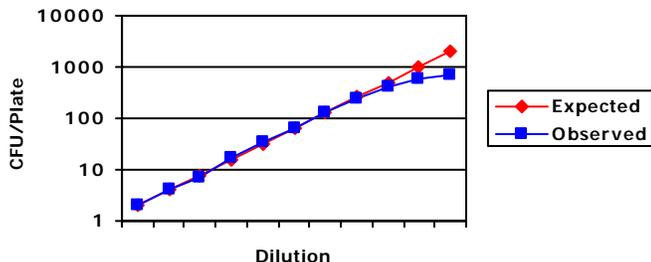

Figure 1 - Excessive CFU/plate
There are methods available if you should want to accurately determine the upper limit for a unique plating surface or a unique colony type. One is presented in the USP informational chapter <1227> (5) which is based on a pair-wise comparison of counts from a dilution series. This is based on the assumption that at the upper limit the observed numbers of CFU will fall off the expected numbers at some point (see Figure 1). This divergence will become significant at some point – that defines the upper limit of CFU/plate.